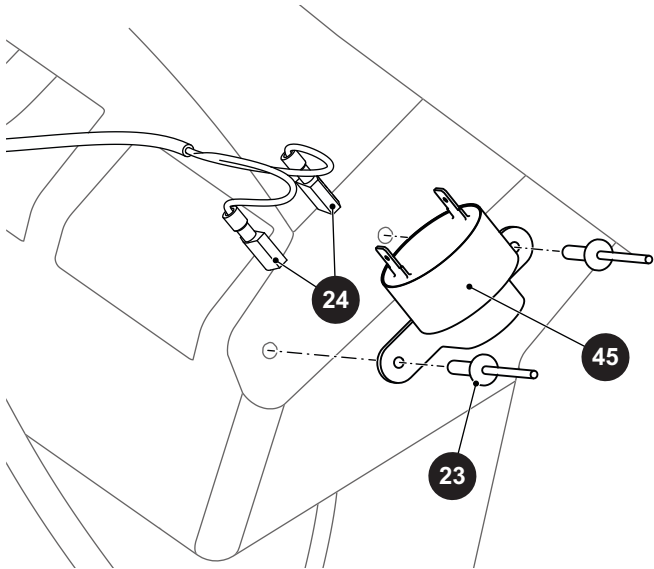

Figure 12 Reverse Buzzer
3. Disconnect the push on connections (24) (Ref. Figure 12).
4. Drill out the rivets (23) securing the reverse buzzer (45) to the instrument panel.